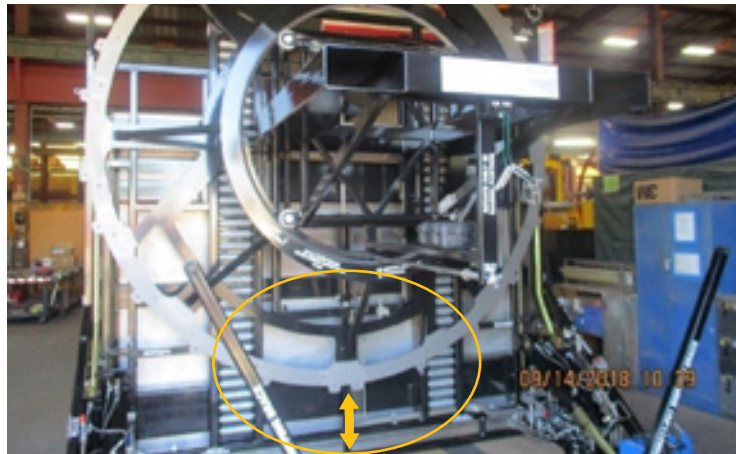

Figure 5.4 Fan Carriage and Mounting Ring in the Higher Position
2. Figure 5.4 shows the Carriage and Mounting Ring in the (RAISED) position; in this position you can load and unload the fan stator. NOTE: The unit CANNOT flip in this position